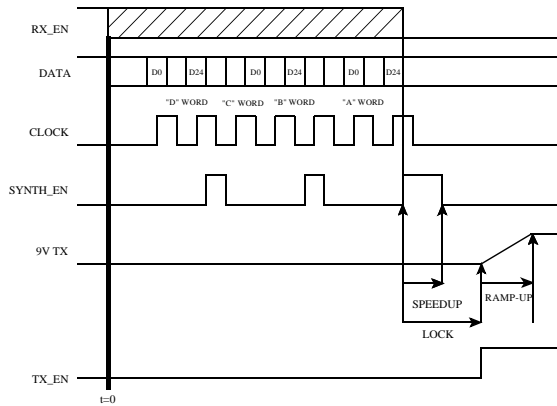

Figure 3-8 RX TO TX TIMING DIAGRAM
1. Synthesizer is loaded (D, C, B and A0 words). Refer to Figure 3-8.